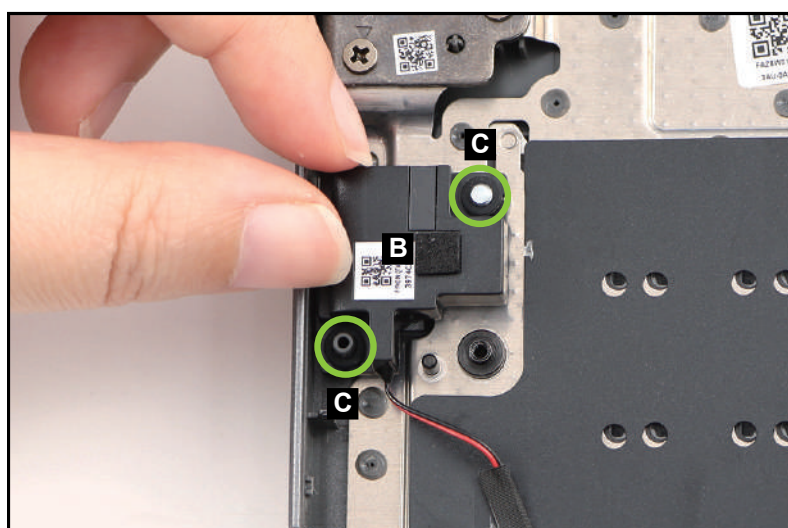

Figure 3-59. Right Speaker Removal
2. Lift the right speaker (B) to release it from the guide pins (C) on the top assembly (Figure 3-59). Then remove the speaker.